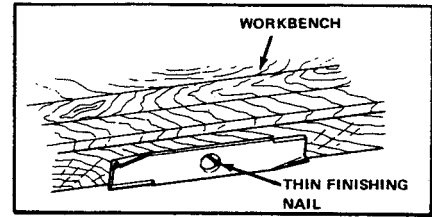

Figure 13. Balance Blade
5. Balance the blade as shown in figure 13. Center the blade's center hole on a nail lubricated with a drop of oil. A balanced blade will remain level.